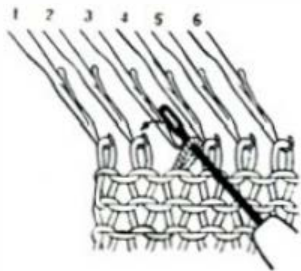

Fig.64
- a. Use the single needle transfer tool and transfer a center stitch to adjacent needle. (See Fig. 64)